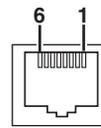

Figure 1 (Do not use telephone wires.)
- 1 Connect the RS-485 terminal on the rear panel of the DVR with the system controller (Figure 1).